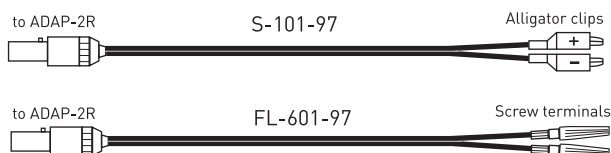

Figure 11: Single-use cable by Remington Medical Inc. (USA only)
- **Adapter cable ADAP-2R** is a reusable cable to connect the single-use cables according to Figure 11 (for USA only) to Reocor D (use the Redel adapter).